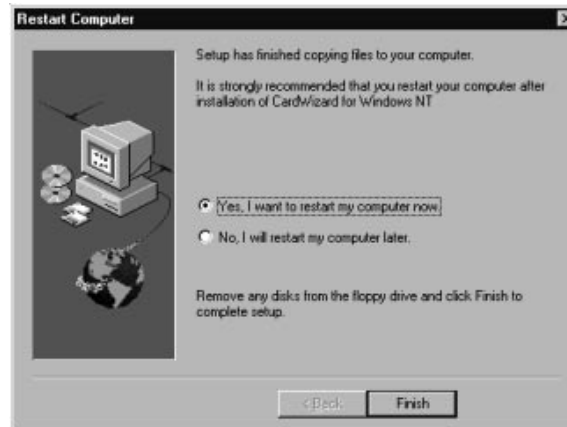

Figure 2-20. Setup Complete Screen
- 11 Click **Yes** to view the ReadMe file or click **No** to view the Setup Complete screen as shown in Figure 2-20.